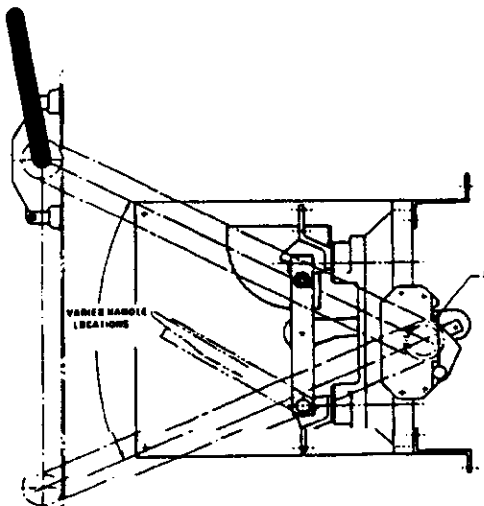

Fig. 3 Handle "UP" in switch closed position.
The component parts for this type are arranged per Fig. 3. The arrangement is essentially the same as for Type I except the handle is at front right. The installation may be performed as follows:
- a. Assemble the chain drive sprocket kit (Mk 302, Dwg. 316-557, sprocket, washer and retaining ring) on the stored-energy device of switch at the right as shown at (X) in Fig. 3.
- b. Mount the frame-mounted switch (Fig. 3) in the enclosure.